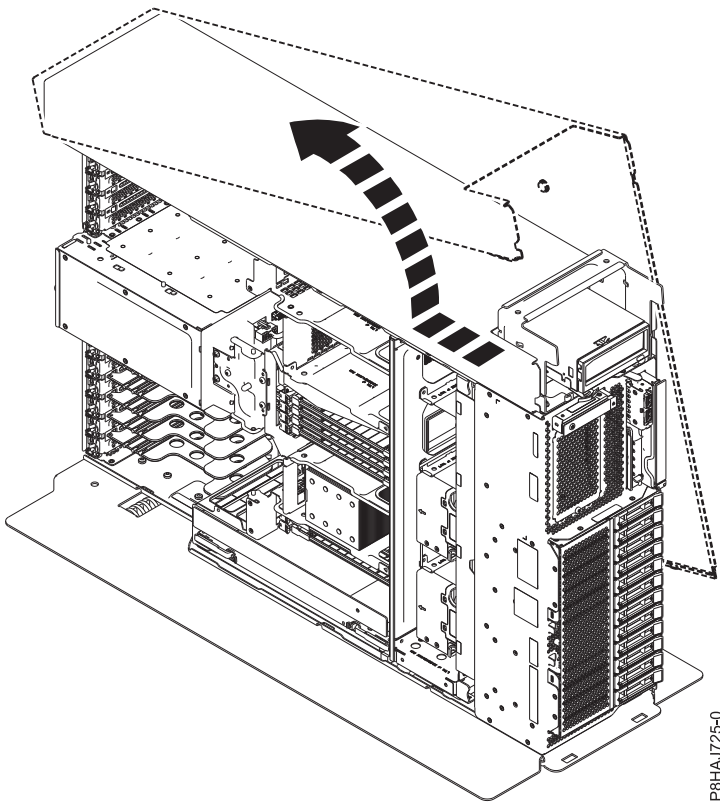

Figure 174. Removing the 8286-41A side cover
5. Slide the side cover off of the system in the direction that is shown in Figure 174 on page 203.